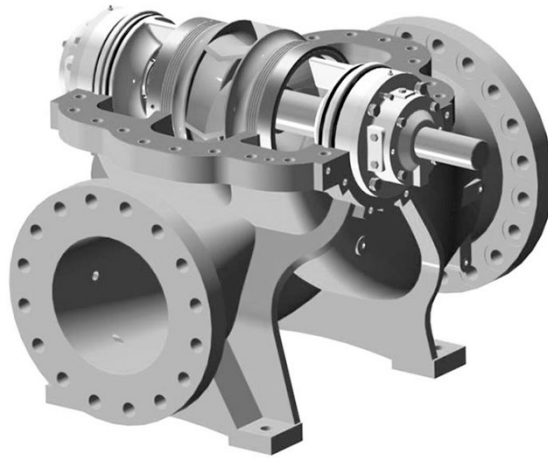

Figure 54: Rotating assembly installed within lower casing
30. Set the rotating element in the pump casing, assuring correct rotation. Locate both seal body tongues in their respective casing grooves. Locate the pins in the seal body and casing wear ring in their respective slots at the casing parting surface. Correct any O-ring bulging. (see Figure 54)